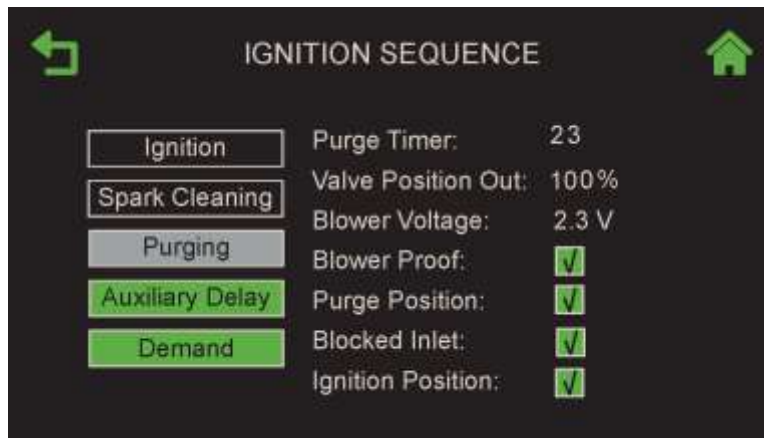
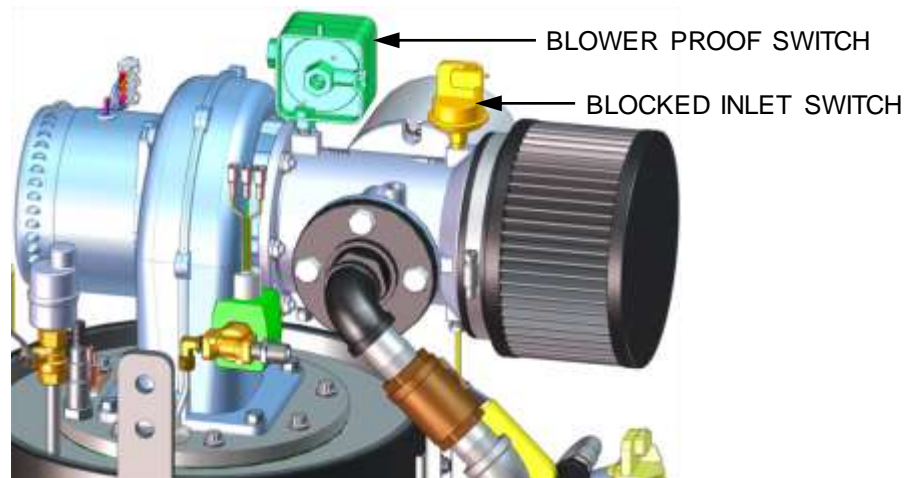

Figure 3-3: Ignition Sequence Screen – Purging
Figure 3-4a: BMK750 & 1000 Blower Proof Switch
- Next, the Blower Proof and Blocked Inlet switches close (Figure 3-4a and 3-4b). On the Ignition Sequence screen, the **Purging** indicator turns grey while purging is underway (Figure 3-3), and **Purge Timer** displays the purge cycle's elapsed time in seconds.
- b) The Spark Cleaning cycle begins (default duration = 7 sec.) and the Ignition Sequence screen's **Spark Cleaning** indicator (Figure 3-3) turns grey. This cycle turns on the ignition transformer to produce a spark (with no gas flowing) to remove moisture and carbon buildup from the spark element. During this cycle the Controller displays the **Cleaning Igniter** status message.
- c) Following the Spark Cleaning cycle, power is applied to the gas Safety Shut-off Valve (SSOV). When the SSOV indicates the Gas Valve is OPEN (POC) and the Ignition Sequence screen's **Ignition** indicator (Figure 3-3) turns grey.